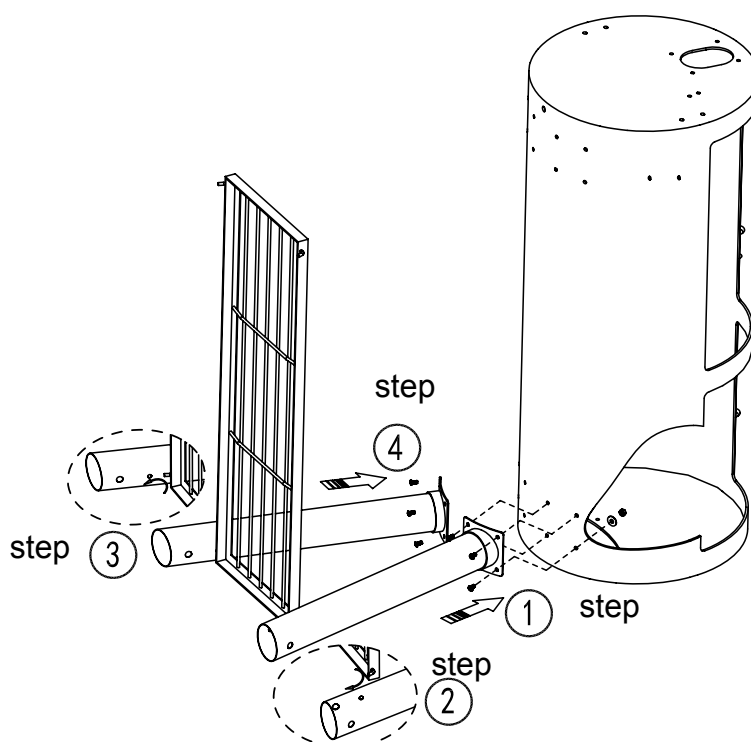

fig. 2
- Stand the cooking chamber (9) on the small lid end *fig. 2*.
- Fit the bottom wire rack (20) to the short legs (22), inserting the location pins on the rack into the hole at bottom of the wheel legs - short (22) and attach the legs to the base of the cooking chamber (9) using 8-M6x15mm bolts, 8 flat washers and 8-M6 nuts.